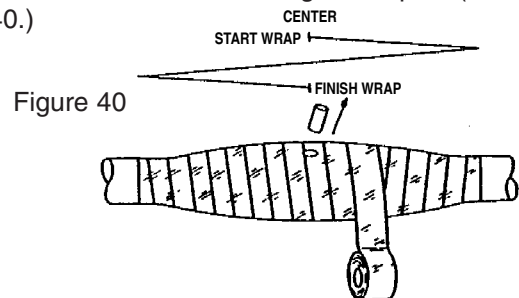

Figure 40
- Starting and ending at the center of the DR Tape layer, half-lap 2 layers of TPIPT-97 Pressure Tape in a Z fashion over entire length of repair. (See Figure 40.)